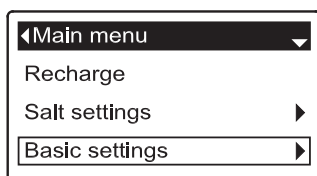

FIG. 99
1. From any of the rolling status screens, press the SELECT (O) button to display the **Main menu**.
2. Press the DOWN (▼) button to scroll through the menu options until **Basic settings** is highlighted (See Figure 99).